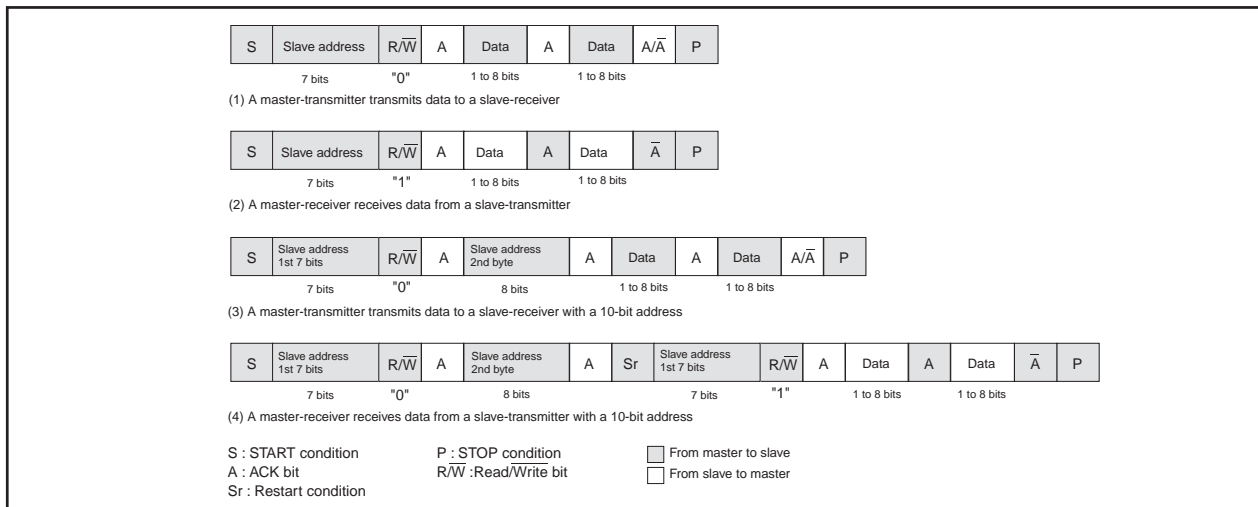

Fig. 13.14 Address data communication format
To meet the 7-bit addressing format, set the 10BIT SAD bit of the I²Ci control register to "0." The first 7-bit address data transmitted from the master is compared with the high-order 7-bit slave address stored in the I²Ci address register. At the time of this comparison, address comparison of the RBW bit of the I²Ci address register is not made. For the data transmission format when the 7-bit addressing format is selected, refer to Figure 13.14, (1) and (2).
When the first-byte address data matches the slave address, the AAS bit of the I²Ci status register is set to "1." After the second-byte address data is stored into the I²Ci data shift register, make an address comparison between the second-byte data and the slave address by software. When the address data of the 2nd bytes matches the slave address, set the RBW bit of the I²Ci address register to "1" by software. This processing can match the 7-bit slave address and R/\overline{W} data, which are received after a RESTART condition is detected, with the value of the I²Ci address register. For the data transmission format when the 10-bit addressing format is selected, refer to Figure 13.14, (3) and (4).
(11) Example of Master Transmission